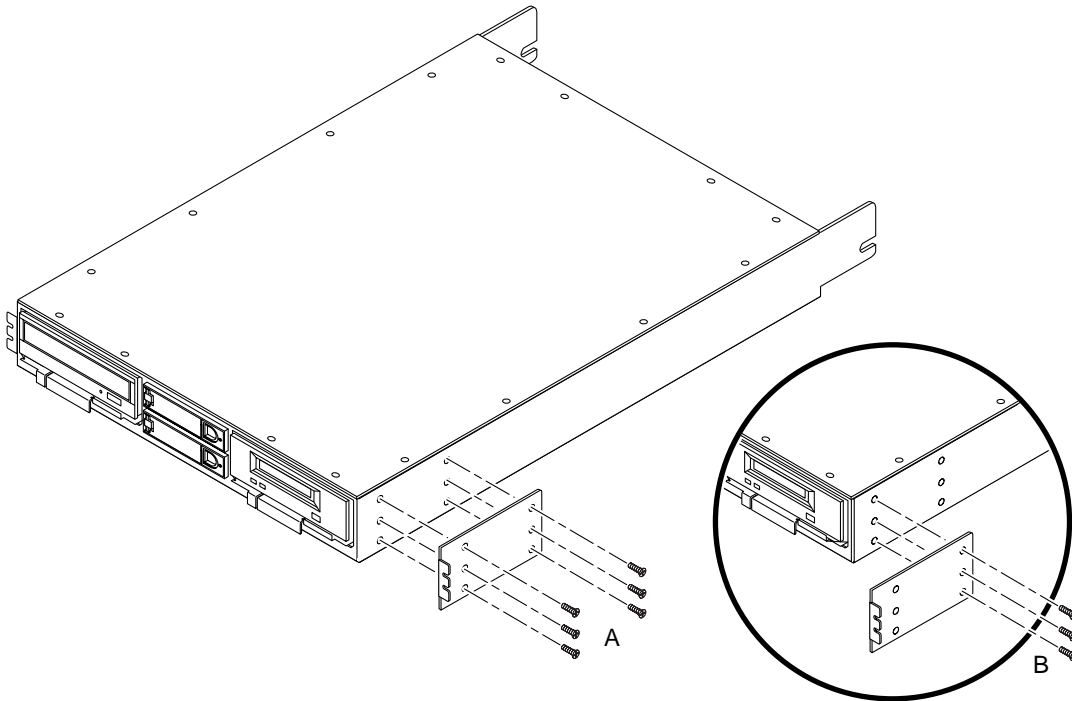

FIGURE 2-8 Attaching the Mounting Ear to the Media Tray
- If you are mounting the media tray in the Sun Enterprise system cabinet, align *only* the mounting ear *rear* holes to the media tray front side holes, as shown in FIGURE 2-8 B.
- If you are mounting the media tray in the Sun StorEdge expansion cabinet, align the mounting ear *front and rear* holes to the media tray *front and rear* side holes, as shown in FIGURE 2-8 A.